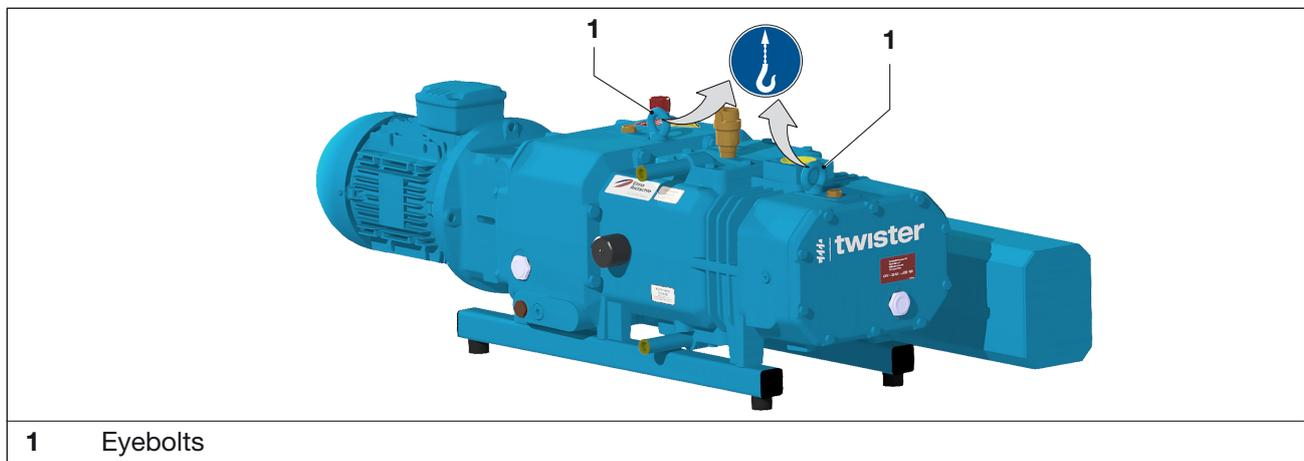

Fig. 1 Lift and transport
- Tighten the eyebolt (Fig. 1/1) firmly.